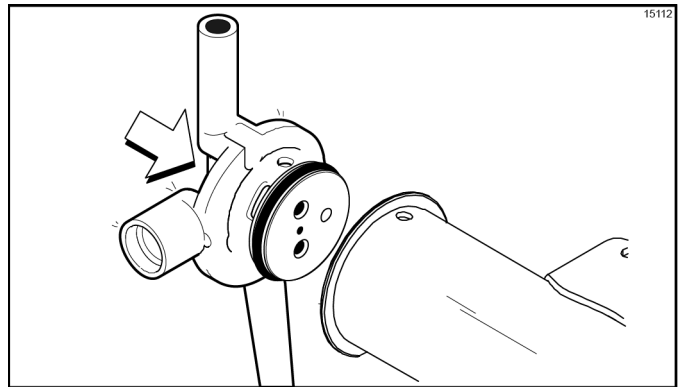

Figure 6-37
8. Insert the mix inlet assembly into the pump cylinder. (See Figure 6-37.)